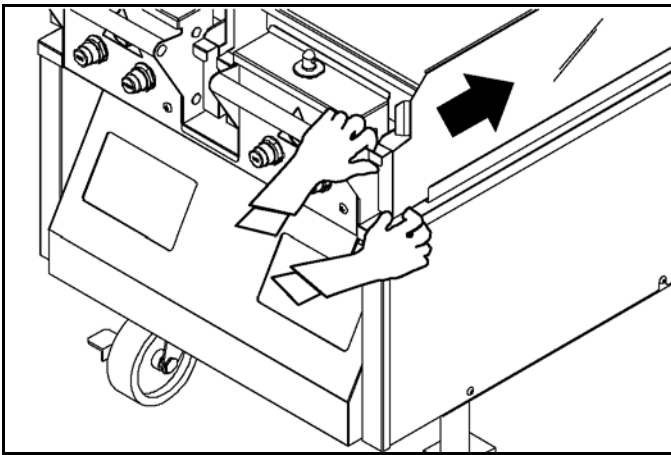

Figure-167
39. Reinstall the grease pans. See Figure-167.